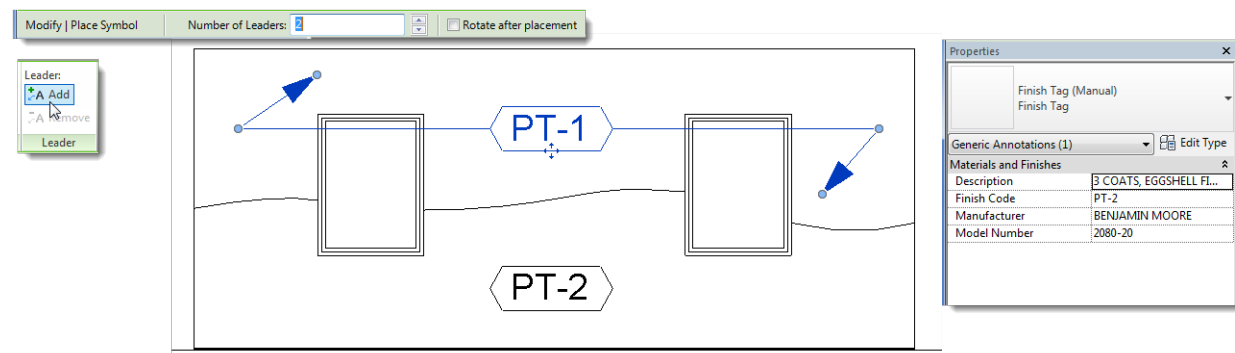

Figure 23 - Add leaders while placing symbols or add them later
12. Like other annotation, you can select the symbol after you place it and then use the tools on the ribbon to add leaders if required. You can also add leaders while placing it on the Options Bar (see Figure 23).